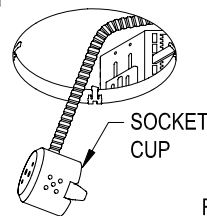

Fig. 5
NOTE: Final vertical adjustment can be made by means of MOUNTING BRACKET SCREWS (FIG. 5) on inside of MOUNTING FRAME
C. Close-IN (Fig. 5)